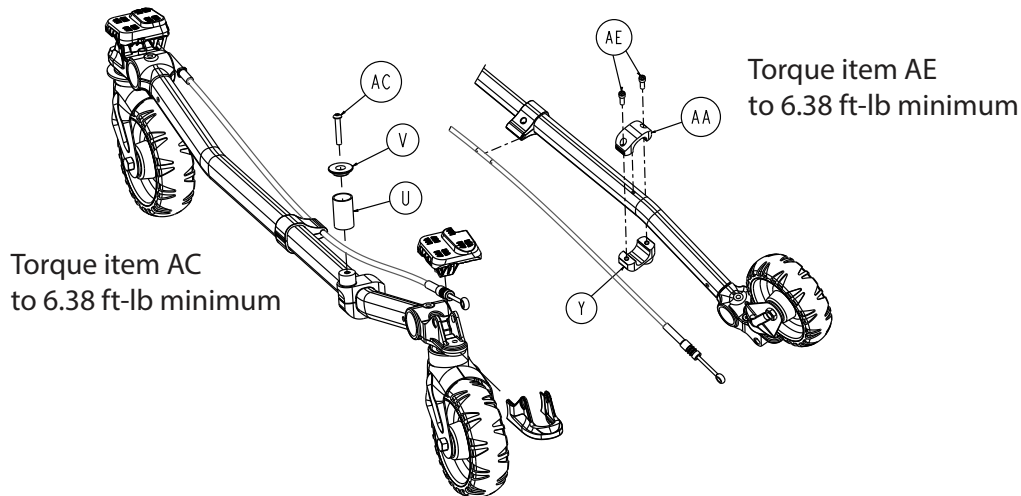

Figure 26 – Cot retaining post components
5. Using a T30 Torx driver, remove the two socket head cap screws (AE) that secure the cot retaining post to the base tube (Figure 26). Discard the screws and cot retaining post.
7. Using a torque wrench, tighten the socket head cap screws (AE) to 6.38 ft-lb (minimum).
8. Insert the button head cap screw (AC) through the retaining post cap (V) and retaining post body (U), and then into the top pin bracket (AA).
9. Using a T27 Torx driver, tighten the button head cap screw to secure the retaining post cap and retaining post body to the bottom bracket (Y).